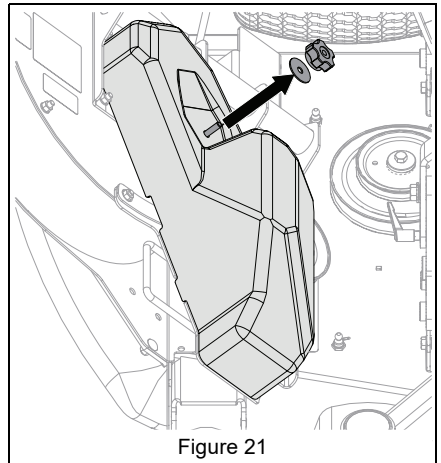

Figure 21
1. Remove retaining knob and washer from blower cover. Remove cover and retain all parts for reinstallation. See Figure 21.